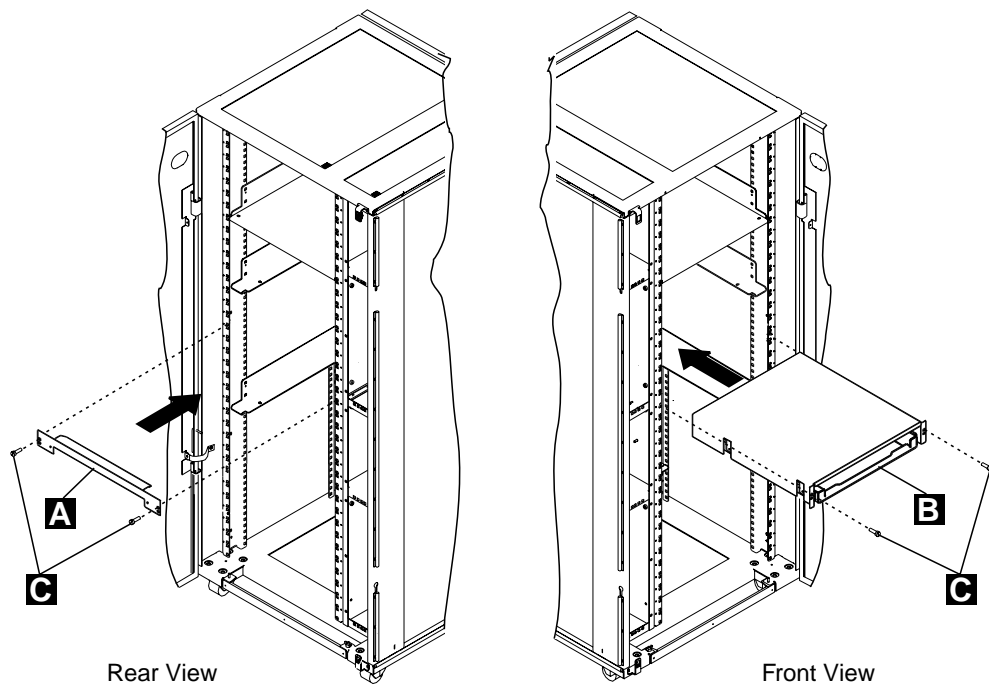

Figure 1-77. Installing the Service Drawer
10. ____ Refer to Figure 1-77, on the rear side of the controller expansion, install bracket **A** using two screws **C** (PN 1621230).